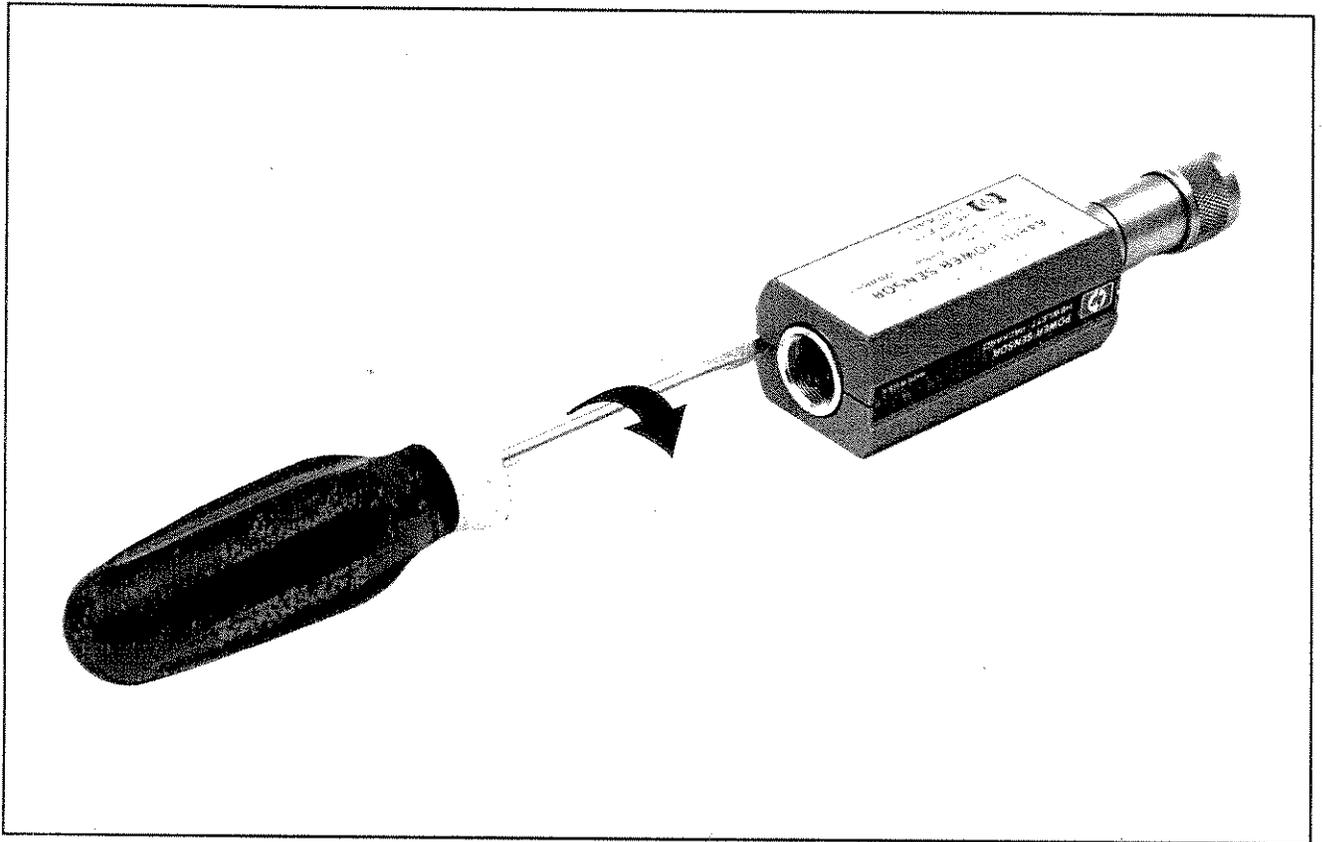

Figure 7. Removing Power Sensor Shell
1. At rear of Power Sensor, insert the blade of a screwdriver between the plastic shells (Figure 7). To prevent damage to the plastic shells use a screwdriver blade as wide as the slot between the two shells.